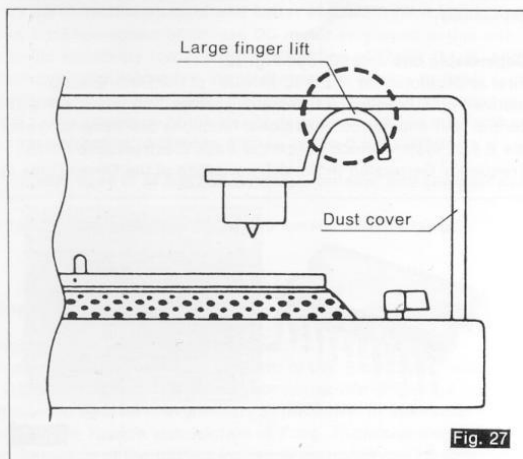

Fig. 27
- ⑦ When you use other head shells, be careful about the head shell configuration. (See Fig. 27.)